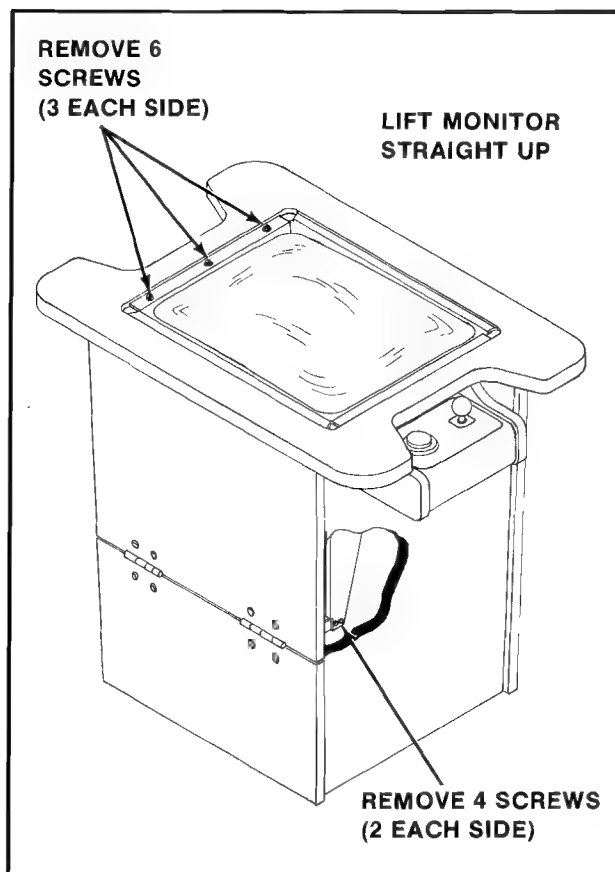

Figure 18 Replacing monitor — Cocktail game
3. COCKTAIL TABLE MODEL: See Figure 18.
- Remove the screws holding the T.V. monitor chassis to the "L" by the door hinge(s). See Figure 18.
- Remove the screws which secure the T.V. monitor mounting brackets to the edges of the slot cut in the table top. See Figure 18.